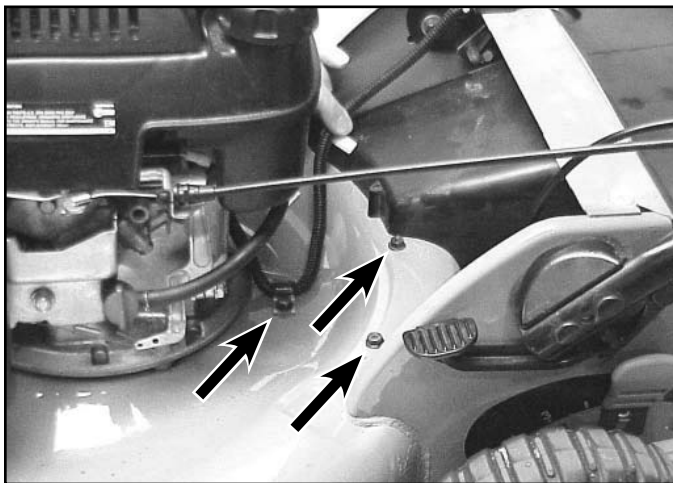

Fig 091
3. Remove the 3 belt cover screws (Fig. 091).